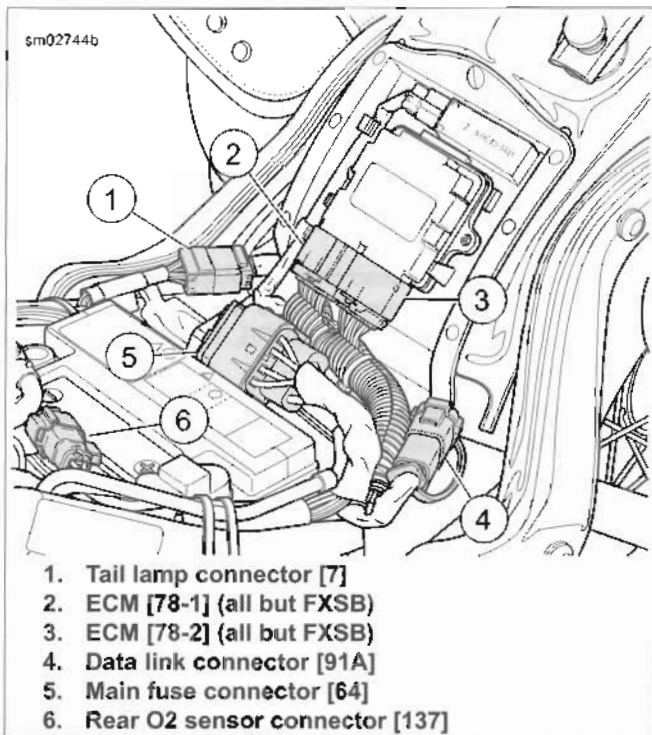

Figure 7-111. Connectors Under Seat
13. See Figure 7-111. Attach connectors under seat.
- a. Secure main fuse connector (4) in cover.